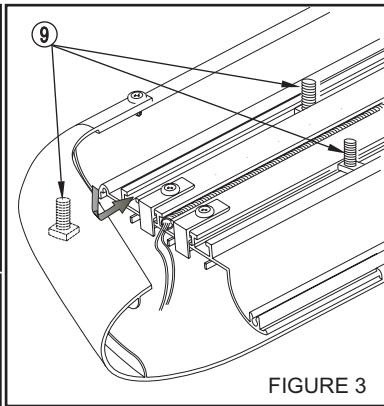
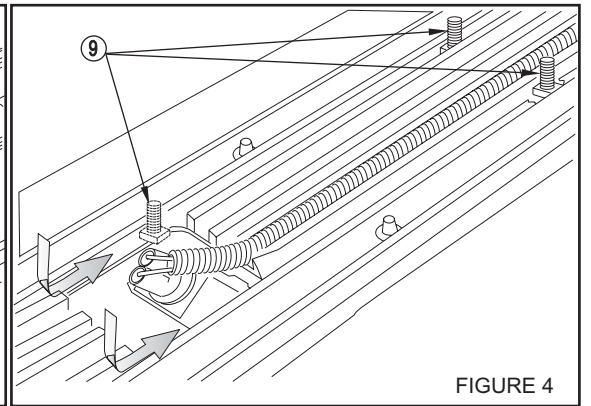

FIGURE 3
FIGURE 4
- STEP 4.** If desired, cut Sure-Grip Running Board to custom length. Remove end cap, cut to length, and attach end cap. **SEE FIGURE 8.** Insert square head bolts as shown (3 per slot, 6 per board). **SEE FIGURES 3 AND 4. NOTE:** For lighted boards, run wiring harness prior to attaching board to brackets (refer to Step 6). **SEE FIGURE 7.** Run longer wire harness on passenger side.
HINT: Step boards: For Longevity, check rubber seals before installation. Rubber grommets around red and blue wires going into rear sockets, should be inserted and recessed about 1/4". **NOTE:** Remove bulbs and apply white grease into sockets and replace bulbs. Apply RTV Silicone where lights go into socket. Install lights and run wire loom as shown. **SEE FIGURE 4.** For Sure-Grip Running Boards, run wire loom down center as shown. **SEE FIGURE 3.**